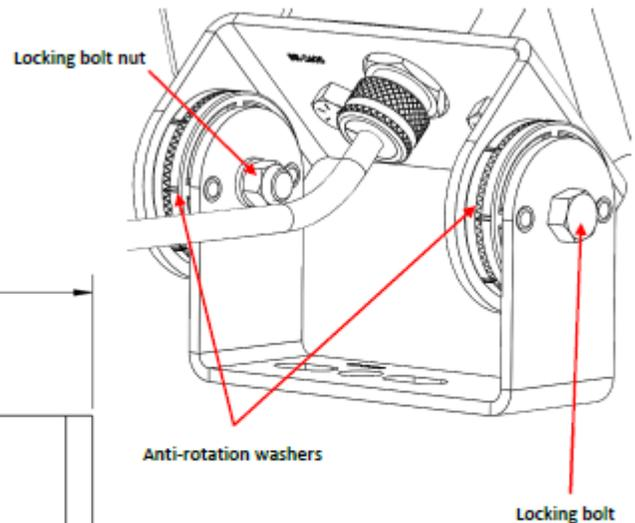

Figure 15
2. With the yoke mounted securely and the weight of the luminaire supported so that it does not fall over, loosen the two (2) 3/8" locking bolts just enough to disengage the teeth of the anti-rotation washers (see figure 15) so the yoke angle can be adjusted. For units with photocontrol receptacle, the fixture mounting angle must be restricted per ANSI C136.10 and it is recommended to not install beyond 45° from horizontal.